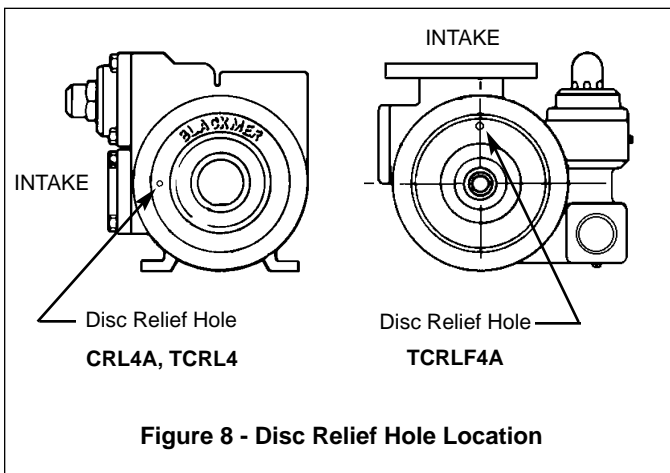

Figure 8 - Disc Relief Hole Location
4. Place the disc (71) against the head (20) with disc relief hole located so that when the head is mounted on the pump with the "Blackmer" name in an upright position, the relief hole will be at the pump intake, 9 o'clock position on CRL4 pump and 12 o'clock position on discontinued TCRLF4A pumps (see Figure 8). Install and tighten the disc machine screws and lockwashers (71A & 71B). The drive tangs of the seal jacket must protrude through the center hole of the disc.